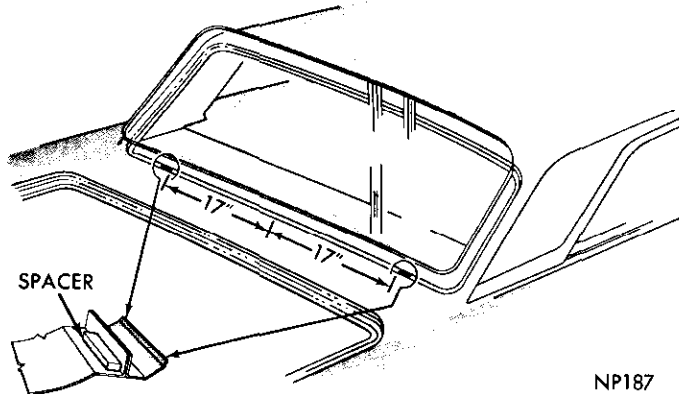
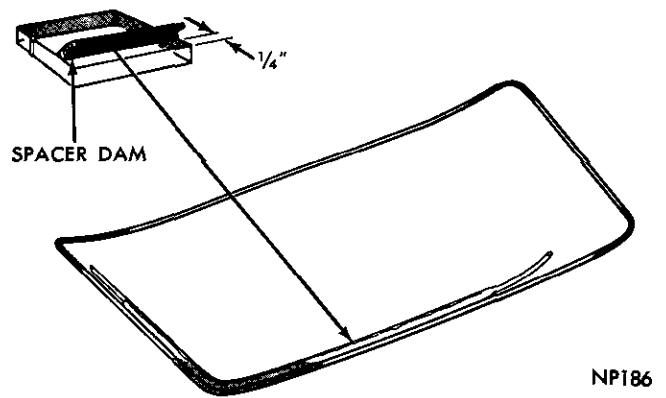

Fig. 6—Spacer Installation
Fig. 7—Spacer Dam Installation
(1) Inspect moulding retaining clips. Remove and straighten clips bent more than 1/32 inch away from the body panel. Use block self-sealing screw-on type clips when necessary to replace. All clips must be attached tightly.
(2) Inspect rubber spacers (2) in lower reveal. Spacers are made from .25 x .40 x 1.0 inch block of rubber and placed 17 inches from center line of window (Fig. 6).
(3) Clean interior surface of glass. Hand pressure to clean the glass interior surface after installing glass and before adhesive has set up may result in glass being pushed out of opening.
(4) Install spacer dam 1/4 inch from edge and positioned so it leans toward edge on glass inner surface (Fig. 7).